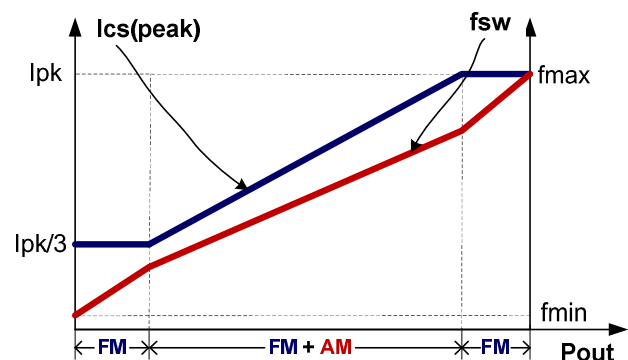

Fig.4
To meet the tight requirement of averaged system efficiency and no load power consumption, a hybrid of frequency modulation (FM) and amplitude modulation (AM) is adopted in DP25131 which is shown in the Fig 4.